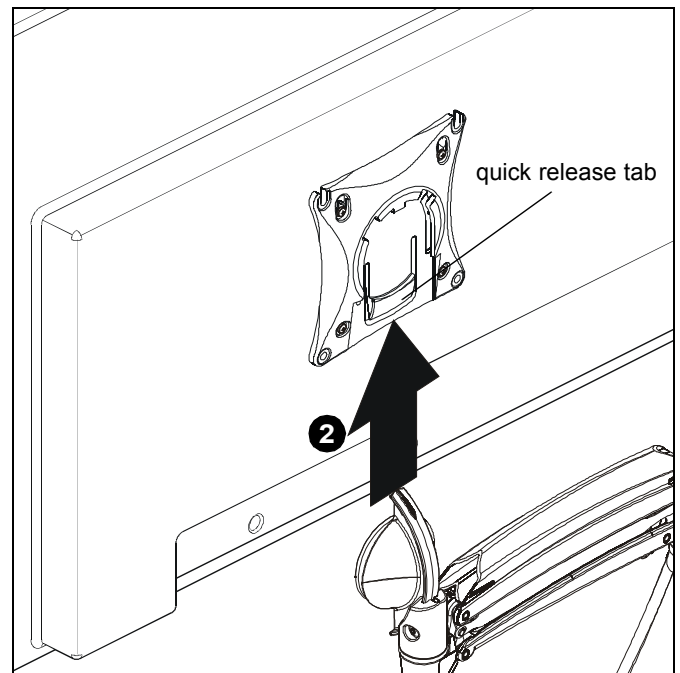

Figure 11
WARNING: Only remove display from mount when the display can be lifted up from the mount! DO NOT remove display unless the display is in the upright position! (See Figure 11)
2. Remove quick release faceplate from mount by pressing quick release tab and sliding faceplate off mount. (See Figure 11)